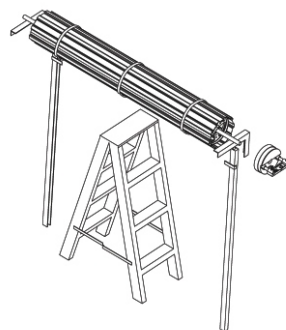
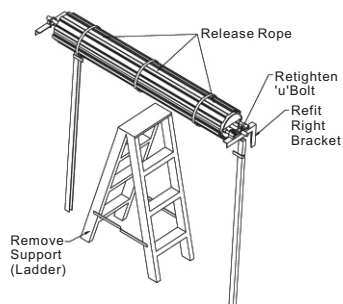

Fig3
Fig4
- Make sure the door supporting prop is secure. While the door is supported, remove the right-hand wall mount bracket. (Fig. 3)
- Remove the geared motor (1) and from the packaging material. Align the assembly with the three counter sunk holes in the spoke section. Affix with screws supplied 3 X (6x25mm counter sunk) using an appropriate flat bladed screwdriver. (Ensure the motor assembly is securely fixed to the drum wheel before proceeding.)
- Remove the motor shaft screw and slide on the main drive gear (4), then refit the shaft screw and tighten.
- Slide the slip ring assembly (13) over the door axle, locate into a position with the two slip ring wires are closest to the motor. Connect the two wires from the slip ring assembly to the motor leads. Observe the polarity of the four wires i.e. red to red, black to black.
- Slide the main Gear (12) over the door axle and engage teeth with the motor drive gear.
- Slide the main body (25) over door axle, space and make sure red pin handle (22) is in manual position. Locate the contact brushes (24) into inner and outer slip ring (13).
- The main body should now be sitting flush up against the ring gear. Attach split ring (9) to split ring extrusion and secure split Ring so tapping screw. (6 3/8)
- Replace right-hand side wall mount bracket. (Fig. 4)